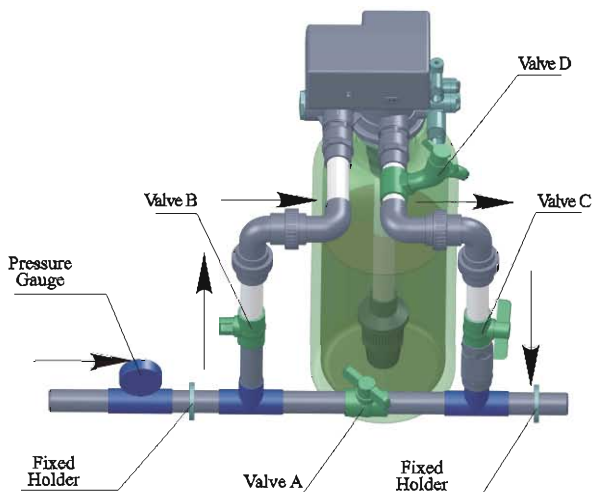

Figure1-2
② Pipeline connection
a. As Figure1-2 shows, install a pressure gauge in water inlet.